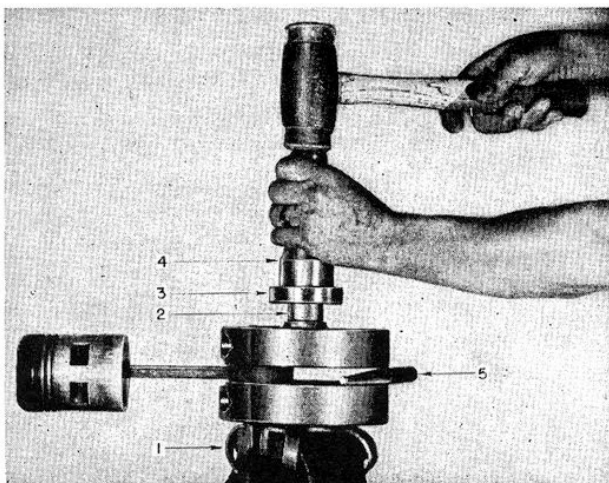

FIG. 14—INSTALLING CRANKSHAFT & BALL BEARING
a. Install ball bearings on each end of crankshaft using driver GP-4; press or hammer tightly against shoulder. (See figure 14).